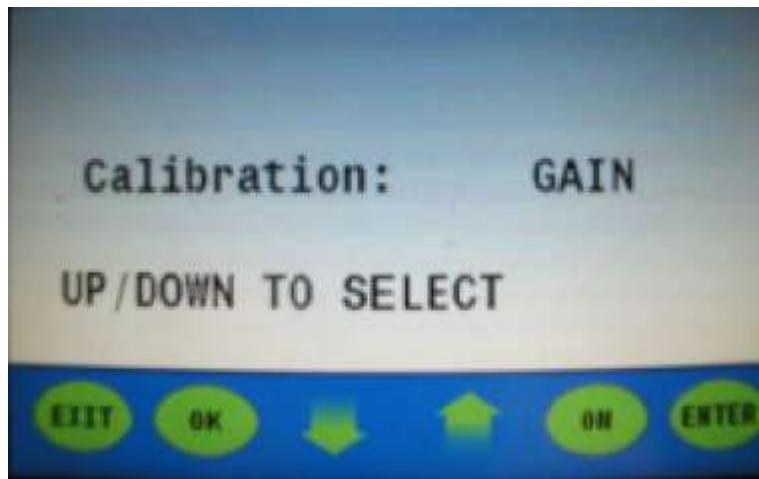

Figure 8
9. Press the **up** or **down arrow** select "Gain." Next, press the **enter button** (figure 8).